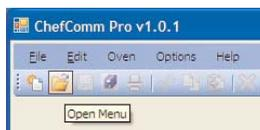

Figure 13: Open Menu
1. From the main ChefComm window, click the **Open Menu** icon (Figure 13).
1. From the main ChefComm window, click the Open Menu icon (Figure 13, page 4).